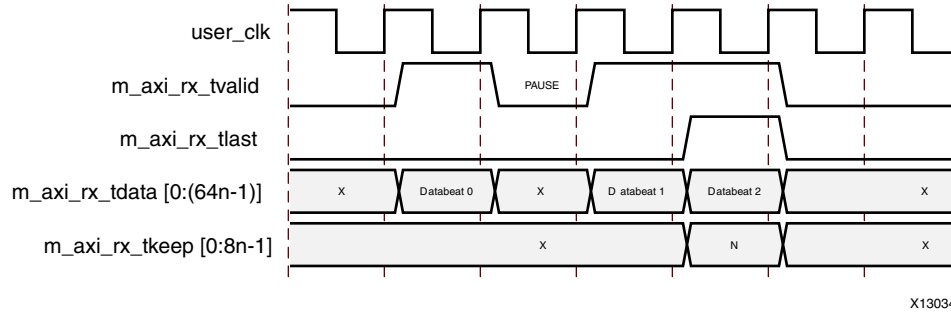

Figure 2-12: Data Reception with Pause
**Figure 2-12** shows an example of  $3n$  bytes of received data interrupted by a pause. Data is presented on the `m_axi_rx_tdata` bus. When the first  $n$  bytes are placed on the bus, the `m_axi_rx_tvalid` output is asserted to indicate that data is ready for the user application. On the clock cycle following the first data beat, the core deasserts `m_axi_rx_tvalid`, indicating to the user application that there is a pause in the data flow.